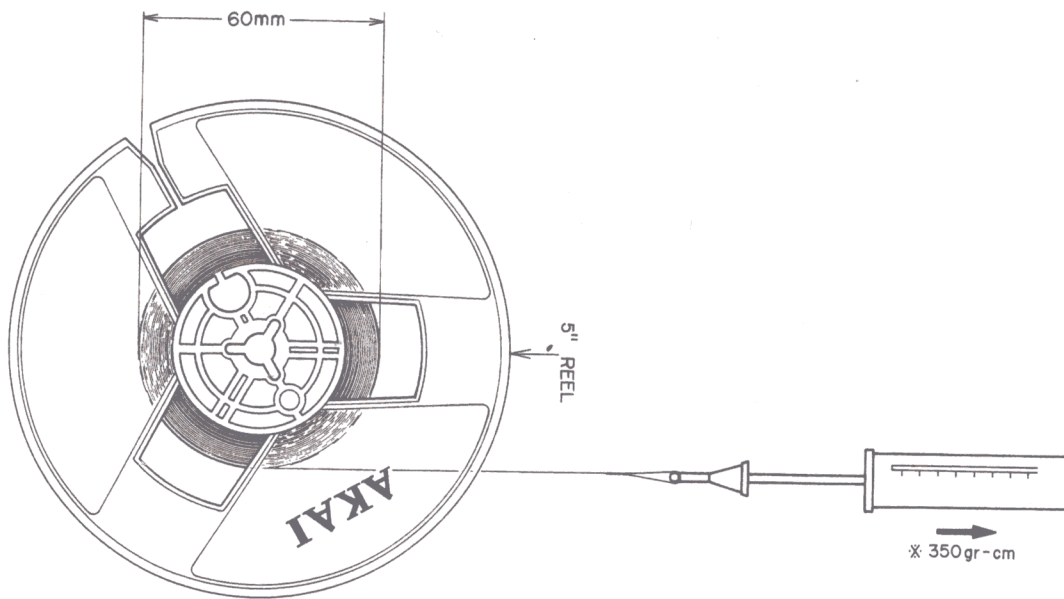

Fig. 3
2. BRAKE TENSION ADJUSTMENT (Refer to Figs. 3 and 4)
- 1) As shown in Fig. 3, use a 60 mm diameter tape wound on a 5" reel and set both left and right brake tension to approximately 350 gr-cm. Deviation of left and right tension must be within 50 gr-cm.